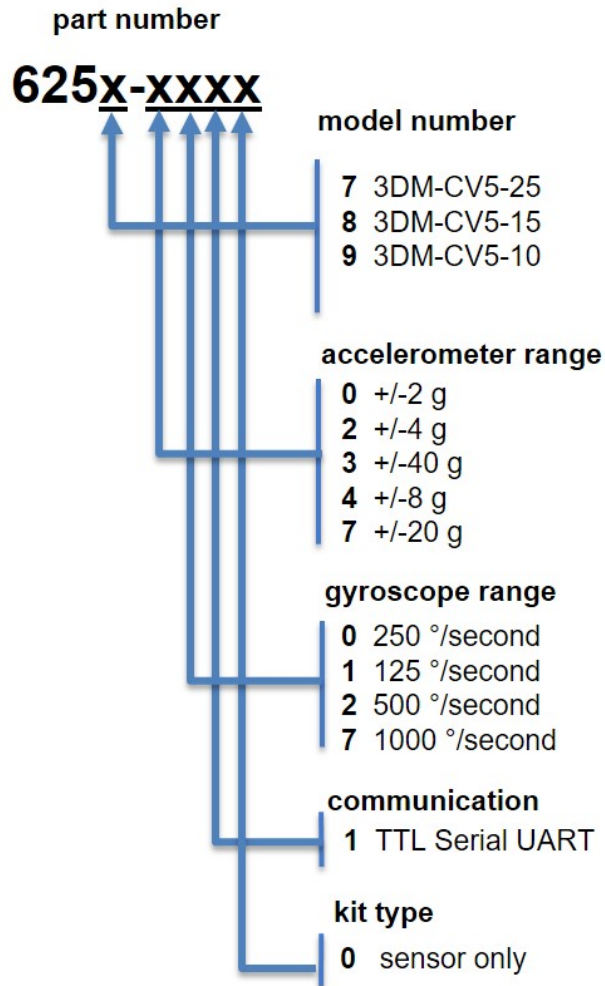

Figure 39 -Standard Part Numbers
*Table 4 - Model Numbers* describes the standard models available at the time this manual was published. Once a model is selected, the part number is further defined by desired configuration and interface options. The model determines the first four digits of the product part number; the options are indicated in the last four digits (*Figure 39 - Standard Part Numbers*).